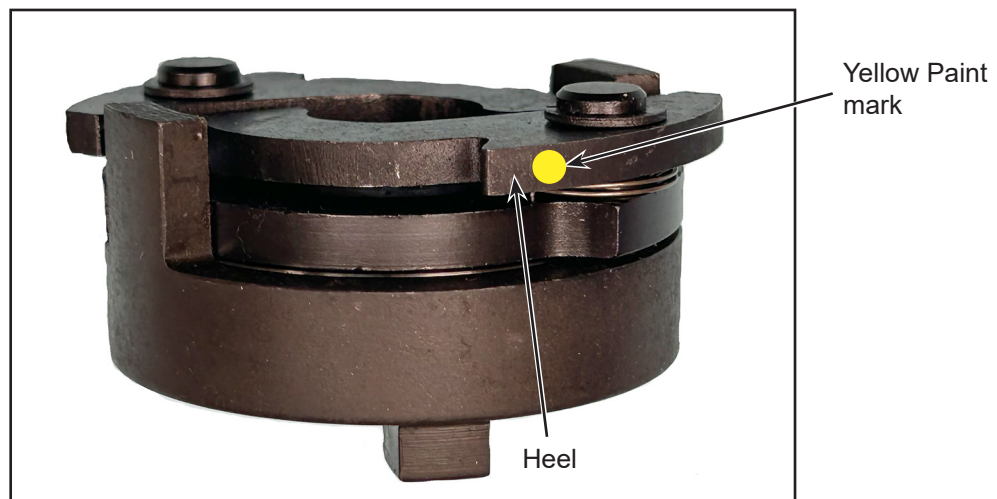

Figure 4 - Field Spare Compliance Mark
- (a) Mark all non-affected spare impulse coupling assemblies and impulse cam assemblies with a yellow paint mark on the heel of each flyweight. Refer to Fig. 4. This supplies a visual indication of compliance without removing the impulse coupling assembly from the magneto assembly once installed.